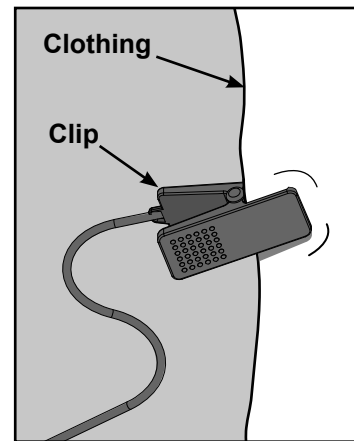

Figure 1
1. Compress the spring and clip the e-stop clamp to your clothing. Ensure the clip engages enough clothing so it does not fall off in an emergency situation. See Figure 1. **NOTE:** Be sure the string is free of knots and has enough slack for you to workout comfortably with the e-stop key in place.